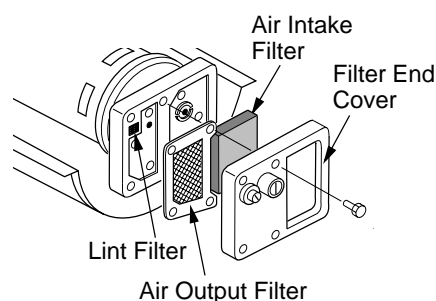

Figure 8 - Air Output, Air Intake, and Lint Filters
2. Remove filter end cover screws using 5/16" nut-driver (see Figure 8).